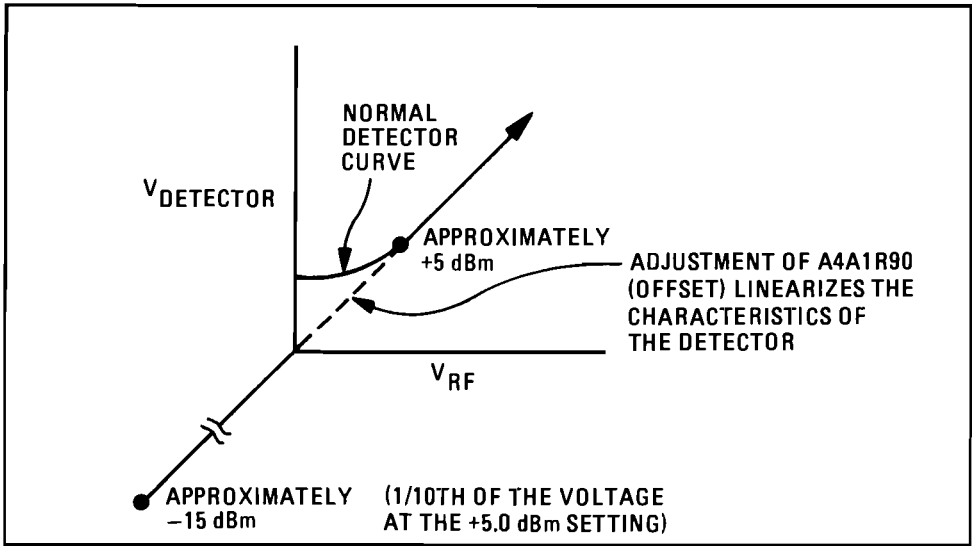

Figure 5-31. Detector Linearization through Adjustment of OFFSET Pot
4. Using the attenuators, reduce the signal input to the A4A1 board so that the resultant output at A4A1J4 is 20 dB below the original unattenuated reading (or about -14 to -16 dBm; see Figure 5-31). At this point, the voltage reading at A4A1TP12 should be exactly 1/10th that of the first reading. If it is not, adjust the A4A1R90 OFFSET pot.